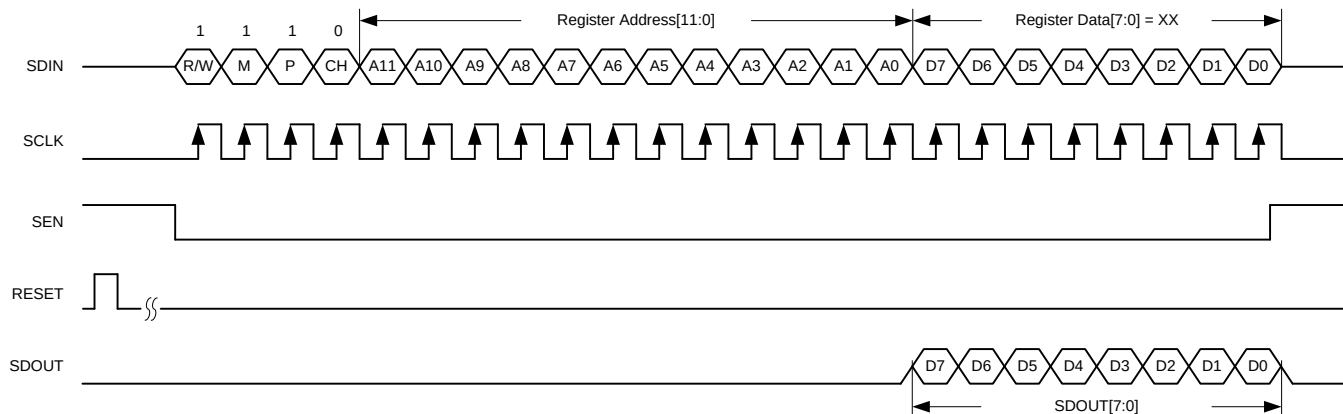

Figure 74. JESD Serial Register Read Timing Diagram
4. Reading back the register content on the SDOOUT pin; see Figure 74. When a page is selected, multiple read backs from the same page can be done.